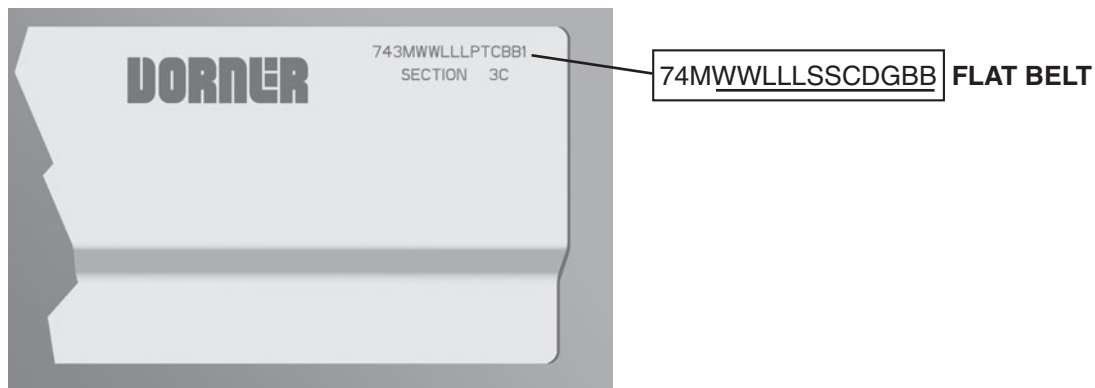

Figure 80
Refer to the model number on the conveyor frame (**Figure 80**). From the model number, determine conveyor width (WW), length (LLL), drive stand location (S), idler stand location (S), cleaning options (C), drive/pulley type (D), profile (G) and belt material (BB).